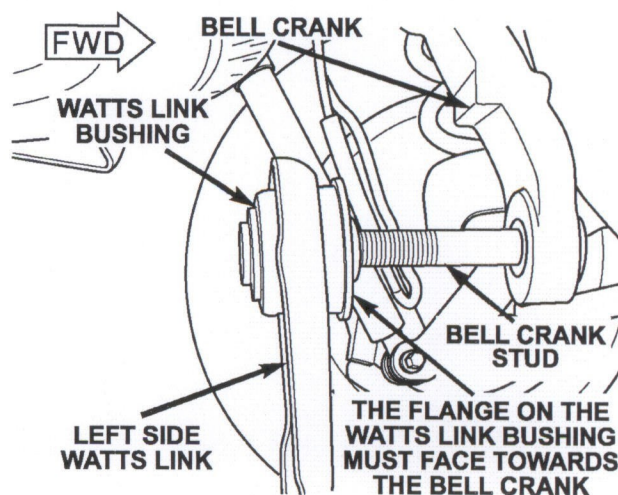

Figure 2
5. Install the left side watts link end to the bell crank stud and install the retaining nut (Figure 2).
CAUTION: The flange on the watts link bushing must face towards the bell crank (Figure 2).